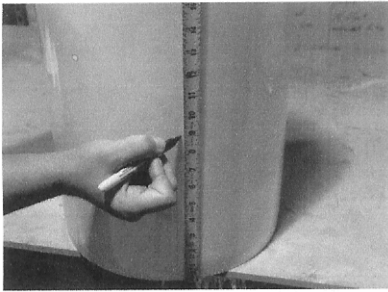

Figure 1
**STEP 1.** For a skylight that has not been installed and you wish to install a light kit measure the light tube from the crimp end up 9" on the seam (**Figure 1**) and drill a 1/2" hole (**Figure 2**) in the center of the seam. For a skylight that has been installed go into the attic and measure up off the trim ring on the seam of the light tube 8" (**Figure 1A**) and drill a 1/2" hole in the center of the seam.